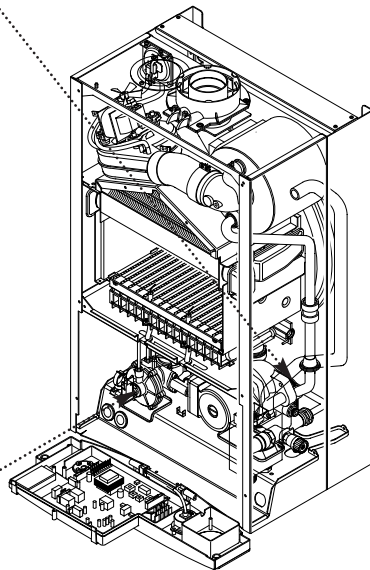

Fig. 68
12.22 Diverter Valve Assembly (Figs. 68 & 69)
2. Undo the screw securing the microswitch bracket to the valve (Fig. 68).